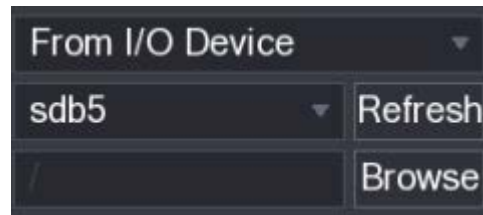

Figure 5-100
- **From I/O Device:** Recorded videos playback from external storage device. See Figure 5-100.